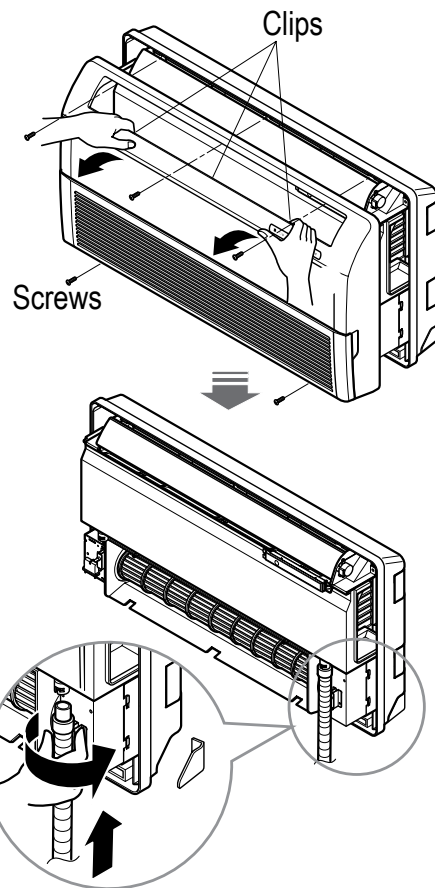

Figure 3: Preparing for Installation
1. Refer to Figure 3. Remove the five screws securing the front cover to the chassis.